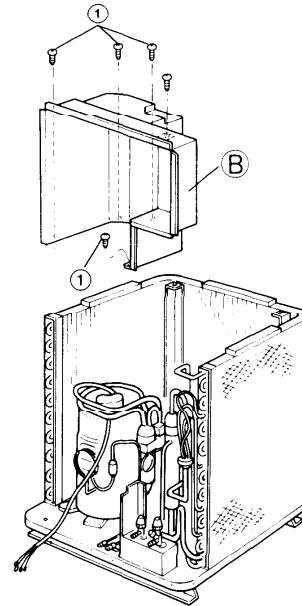

Fig. 20
- 1) Remove the four screws (1) fixing the cover (B), and raise the cover (B) to remove it. Fig. 20